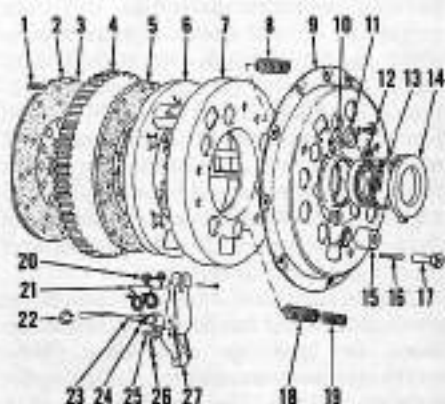

Fig. 142 - Exploded view of Borg and Beck continuous type clutch showing component parts and their relative positions.
bly in original positions and remove springs (20 - Fig. 142), then remove release lever actuating plate (14). Remove adjusting screws (16).
Remove engine flywheel and place flywheel on bench with clutch friction surface up. Bolt clutch assembly on flywheel with plates (3, 4 and 5 - Fig. 142) properly positioned using long stud bolts and nuts instead of regular clutch cover retaining cap screws. Tighten nuts equally until cover is tight against flywheel removing 7/16-inch nuts placed under release levers during removal of clutch assembly as stud nuts are tightened. Remove pins (23) from levers catching needle roller bearings (24) as each pin is removed. Taking care studs do not turn, evenly loosen stud nuts until clutch springs are free. Then, remove studs and nuts and disassemble clutch unit. Remove snap ring (13) and bearing (12).
Check push off springs (1 - Fig. 142) and make certain drive plates slide freely on shaft splines.
**Fig. 144—Cross-sectional view showing placement of spacers and straightedge for assembly adjustment of clutch. Add thickness (Z) of straightedge to measurement (Y) to obtain release lever height (X). Vary shims at location shown to adjust lever height to dimensions outlined in text. Refer to Fig. 142 for numerical legend.**
Referring to Fig. 144, measure distance (Y) between lower face of release plate (15) and top of straightedge. This measurement added to thickness (Z) of straightedge gives clutch release lever setting (X) which should be 84.96 mm (3.345 inches) on 1190 models and 77.34 mm (3.045 inches) on 1290 and 1390 models. Shims (10 - Fig. 142) are added between clutch cover and release lever stops (11) to increase release lever setting or removed to decrease setting. Shims are available in thicknesses of 0.05, 0.07, 0.25 and